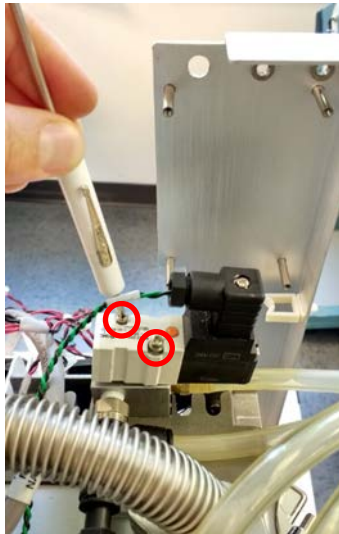

Figure 3 Removing Valve
- 5 If the leak detector configuration has a valve in front of the bottom left post, move that valve aside by unscrewing the two screws circled (Figure 3: Removing valve). Keeping the wiring connected, set valve aside. This valve is only used on certain models of leak detectors. If the valve is not present, ignore this step.
- 11** Reinstall the valve and dress internal wires inside of leak detector (Figure 3: Removing Valve).